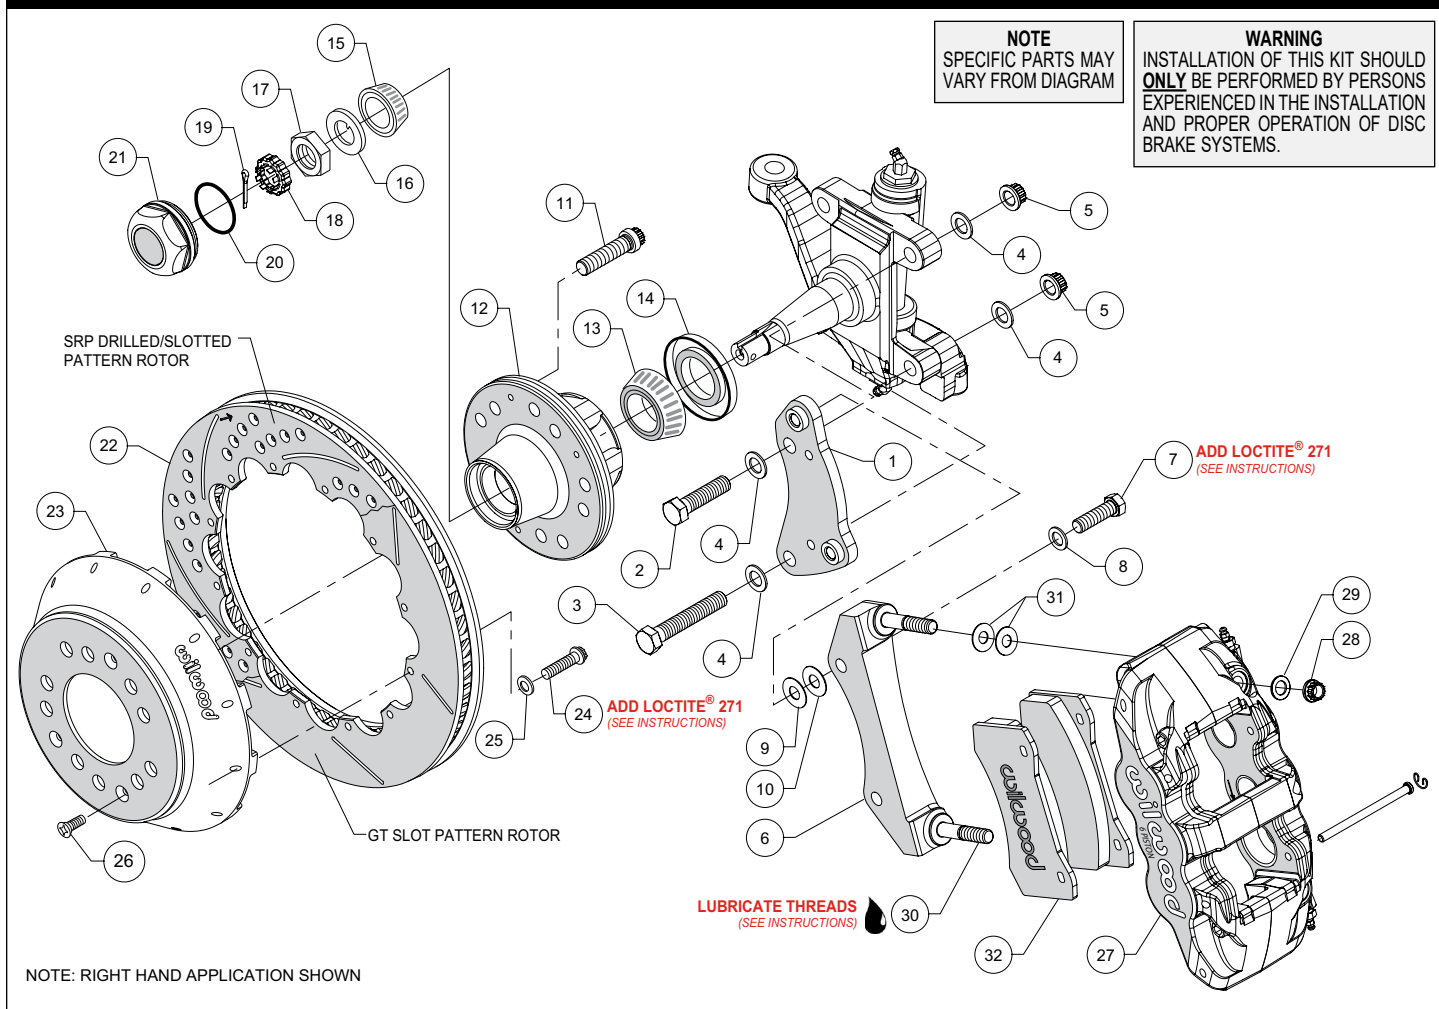
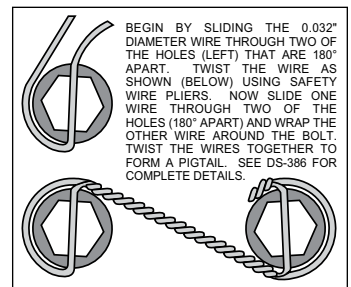
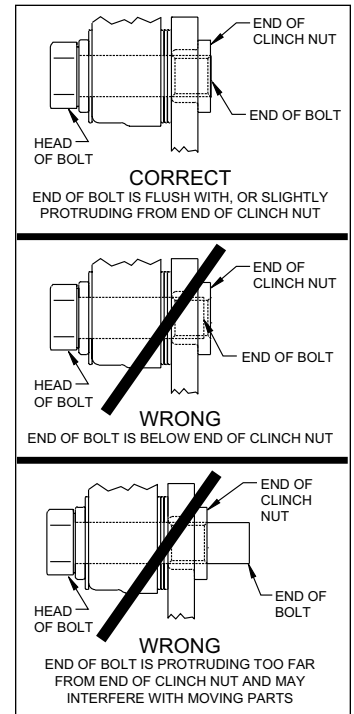

Figure 1. Typical Installation Configuration
Figure 3. Safety Wire Diagram
Figure 4. Clinch Nut Engagement Diagram
**Assembly Instructions** (numbers in parenthesis refer to the parts list, on the preceding page and Figure 1). **CAUTION:** All mounting bolts must fully engage clinch nuts. Be sure to check that all bolts are either flush or protruding through flanged side of clinch nut after shimming, Figure 4.
- Orient the spindle bracket (1) as shown in Figure 1 and Photo 1, and install using bolts (2 and 3), washers (4) and nuts (5). Temporarily tighten the mounting bolts. Ensure that the flanged heads of the clinch nuts in the bracket are facing outboard, Photo 1. **NOTE:** The bracket must fit squarely against the mount bosses on the upright. Inspect for interference from casting irregularities, machining ridges, burrs, etc. Torque lock nuts to 65 ft-lb.
- The caliper mount radial bracket (6) should initially be installed with clean, dry threads on the mounting bolts. Orient the bracket as shown in Figure 1 and Photo 2. Install onto the spindle bracket using bolts (7), and washers (8). Initially place one .030 thick shims (9) on each bolt between the radial and spindle brackets, Figure 1. Temporarily tighten the mounting bolts. Later, after the caliper alignment has been checked, the mount bolts will be secured using red *Loctite*® 271.
- Install wheel studs (11) into the hub (12), Photo 3. Torque to 77 ft-lb. **NOTE:** *There are two five lug patterns in the hub (5 x 4.50 and 5 x 4.75).* Ensure the correct hub stud pattern is being used to fit the wheel application.
- Pack the large inner bearing cone (13) with high temperature disc brake bearing grease (available from your local auto parts store) and install into the backside of the hub (12), Photo 4.
- Install the grease seal (14) by pressing into the backside of the hub (12), flush with the end of the hub, Photo 5.
- Pack the small outer bearing cone (15) with high temperature disc brake bearing grease and install into the front side of the hub (12), Photo 6. Slide the hub assembly onto the spindle. Secure using spindle washer (16) and spindle nut (17). Adjust bearings per OEM specifications. Install spindle nut retainer (18) and cotter pin (19), Photo 7.
- Screw dust cap (21) into hub (12), Photo 8. Friction created by the o-ring (20) on the dust cap keeps it from unscrewing. **NOTE:** *The O.D. of the existing OEM spindle washer may be larger than the I.D. of the dust cap not allowing it to seat against the hub face. Therefore, use the spindle washer (16) supplied with the kit instead of the OEM washer.*
- Orient the rotor (22) and the hat (23) as shown in Figure 1 and Photo 9. Attach rotor to hat using bolts (24) and washers (25). Apply red *Loctite*® 271 to the bolt threads and torque to 155 **in-lb** using a criss-cross pattern. For an added measure of security, the bolts may be safety wired using standard 0.032 inch diameter stainless steel safety wire as shown in Figure 3. Refer to Wilwood's data sheet DS-386 (available at [www.wilwood.com/Pdf/DataSheets/ds386.pdf](http://www.wilwood.com/Pdf/DataSheets/ds386.pdf)) for complete safety wire installation instructions.
- Slide the hat/rotor assembly (23/22) onto the hub (12) taking care to align the small countersunk holes in the hat with the small threaded holes in the hub, Photo 10. **NOTE:** *The hat must fit flush against the hub face or excessive rotor run out may result.* Install three flat head screws (26) through the small holes in the hat, and torque to 85 **in-lb**.
- **NOTE:** *This kit contains distinct right and left hand calipers that must be mounted in a specific direction, as described below.* Lubricate the caliper mounting studs (30) with lightweight oil. Initially place two .030" thick shims (31) on each stud between the caliper and the bracket, as shown in Figure 1 and Photo 11. Mount the caliper (27) onto the bracket (6) using lock nuts (28) and washers (29), Figure 1. Ensure that the caliper is mounted so the largest pistons are at the rotor exit end of the caliper, in relation to the direction of rotor rotation. Temporarily tighten the lock nuts and view the rotor through the top opening of the caliper. The rotor should be centered in the caliper, Photo 12. If not, adjust by adding or subtracting shims (9 and/or 10) between the
- Remove the two pad retaining pins from the caliper (27) by carefully popping out the pin retaining clips and sliding out the pins. Insert the brake pads (32) into the caliper from the bottom, Figure 1 and Photo 13. With the friction material facing the rotor, secure the brake pads in place with the pad retaining pins and clips, Photo 14. Reinstall the caliper onto the caliper mounting bracket and temporarily tighten the lock nuts (28). Check that the top of the brake pad is flush with the outside diameter of the rotor, Photo 15. If not, adjust by adding or subtracting shims (31) between the caliper and the bracket. After the caliper pad height is set, torque the caliper lock nuts (28) to 47 ft-lb.